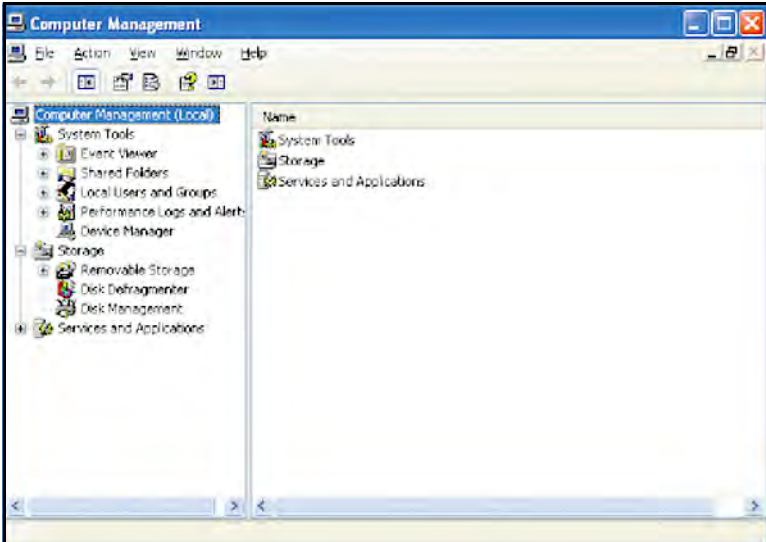

Figure 115: Local Users and Groups in Computer Management
3. In the *Computer Management* option tree, expand the folder Local Users and Groups (see *Figure 115* below).